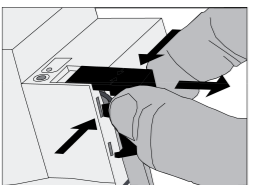

Figure 10: Removing the cover
- o Press the cover to the side and pull it off (figure 10).